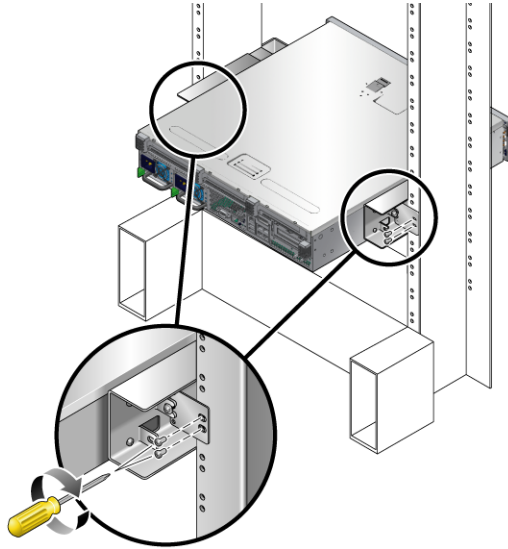

FIGURE 3-7 Securing the Rear Plate to the Side Bracket
- d. Using two screws, secure the far side of the rear plate to the back of the post (FIGURE 3-7). Screw size varies depending on your rack.